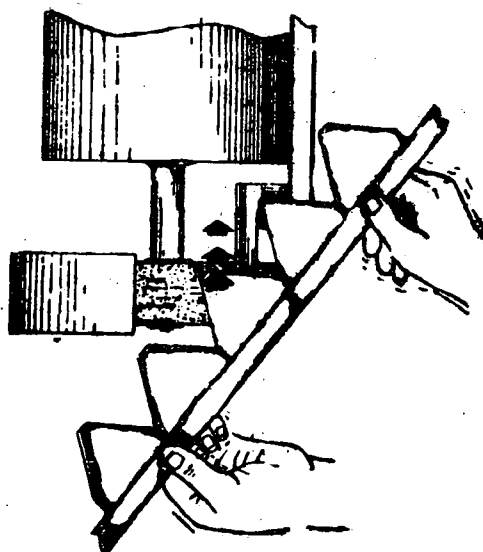

Fig. 3
- b) Sharpen the sections on the fixed grinder. Maintain the original cutting angle and bevel (Fig. 3).